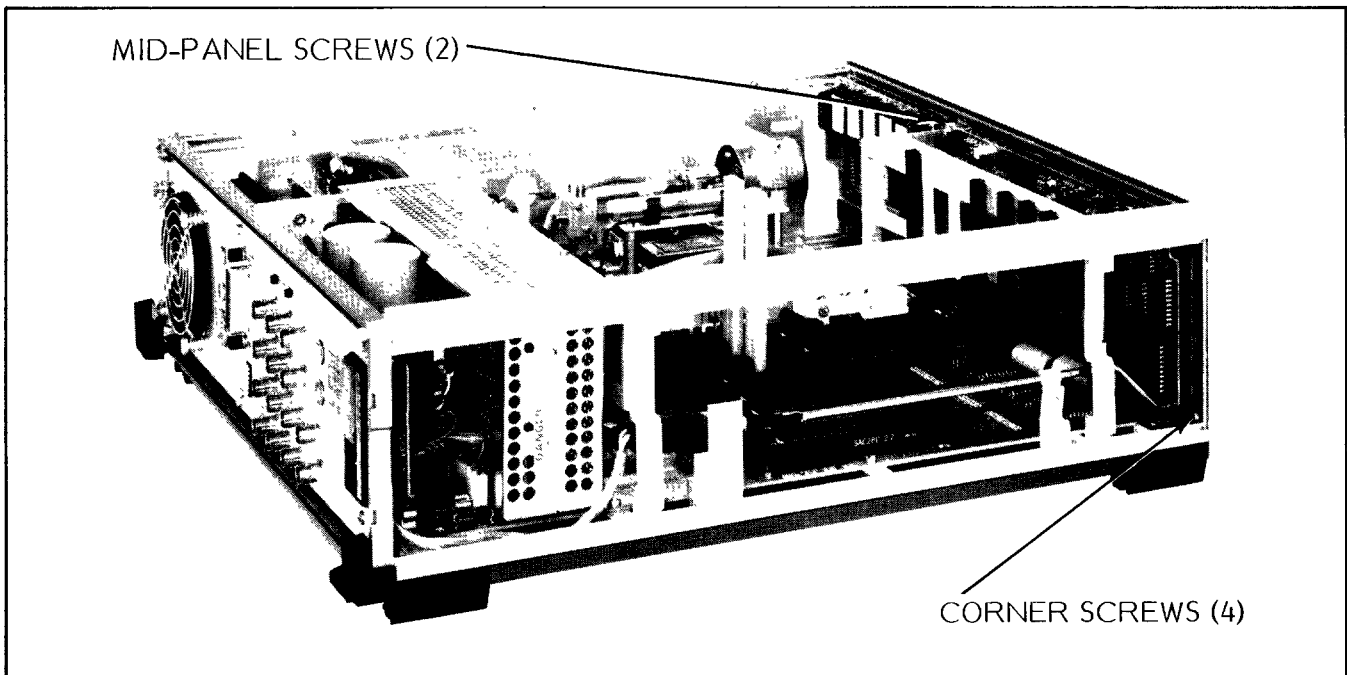

Figure 7-3. 6600 Series Programmable Sweep Generator, Side View
5. Using a 3/32-inch hex wrench, remove the four corner and two mid-panel screws securing the front panel assembly to the basic frame (Figure 7-3).